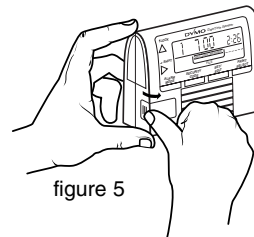

figure 5
1. Remove the ink roll compartment door. (see Figure 5)